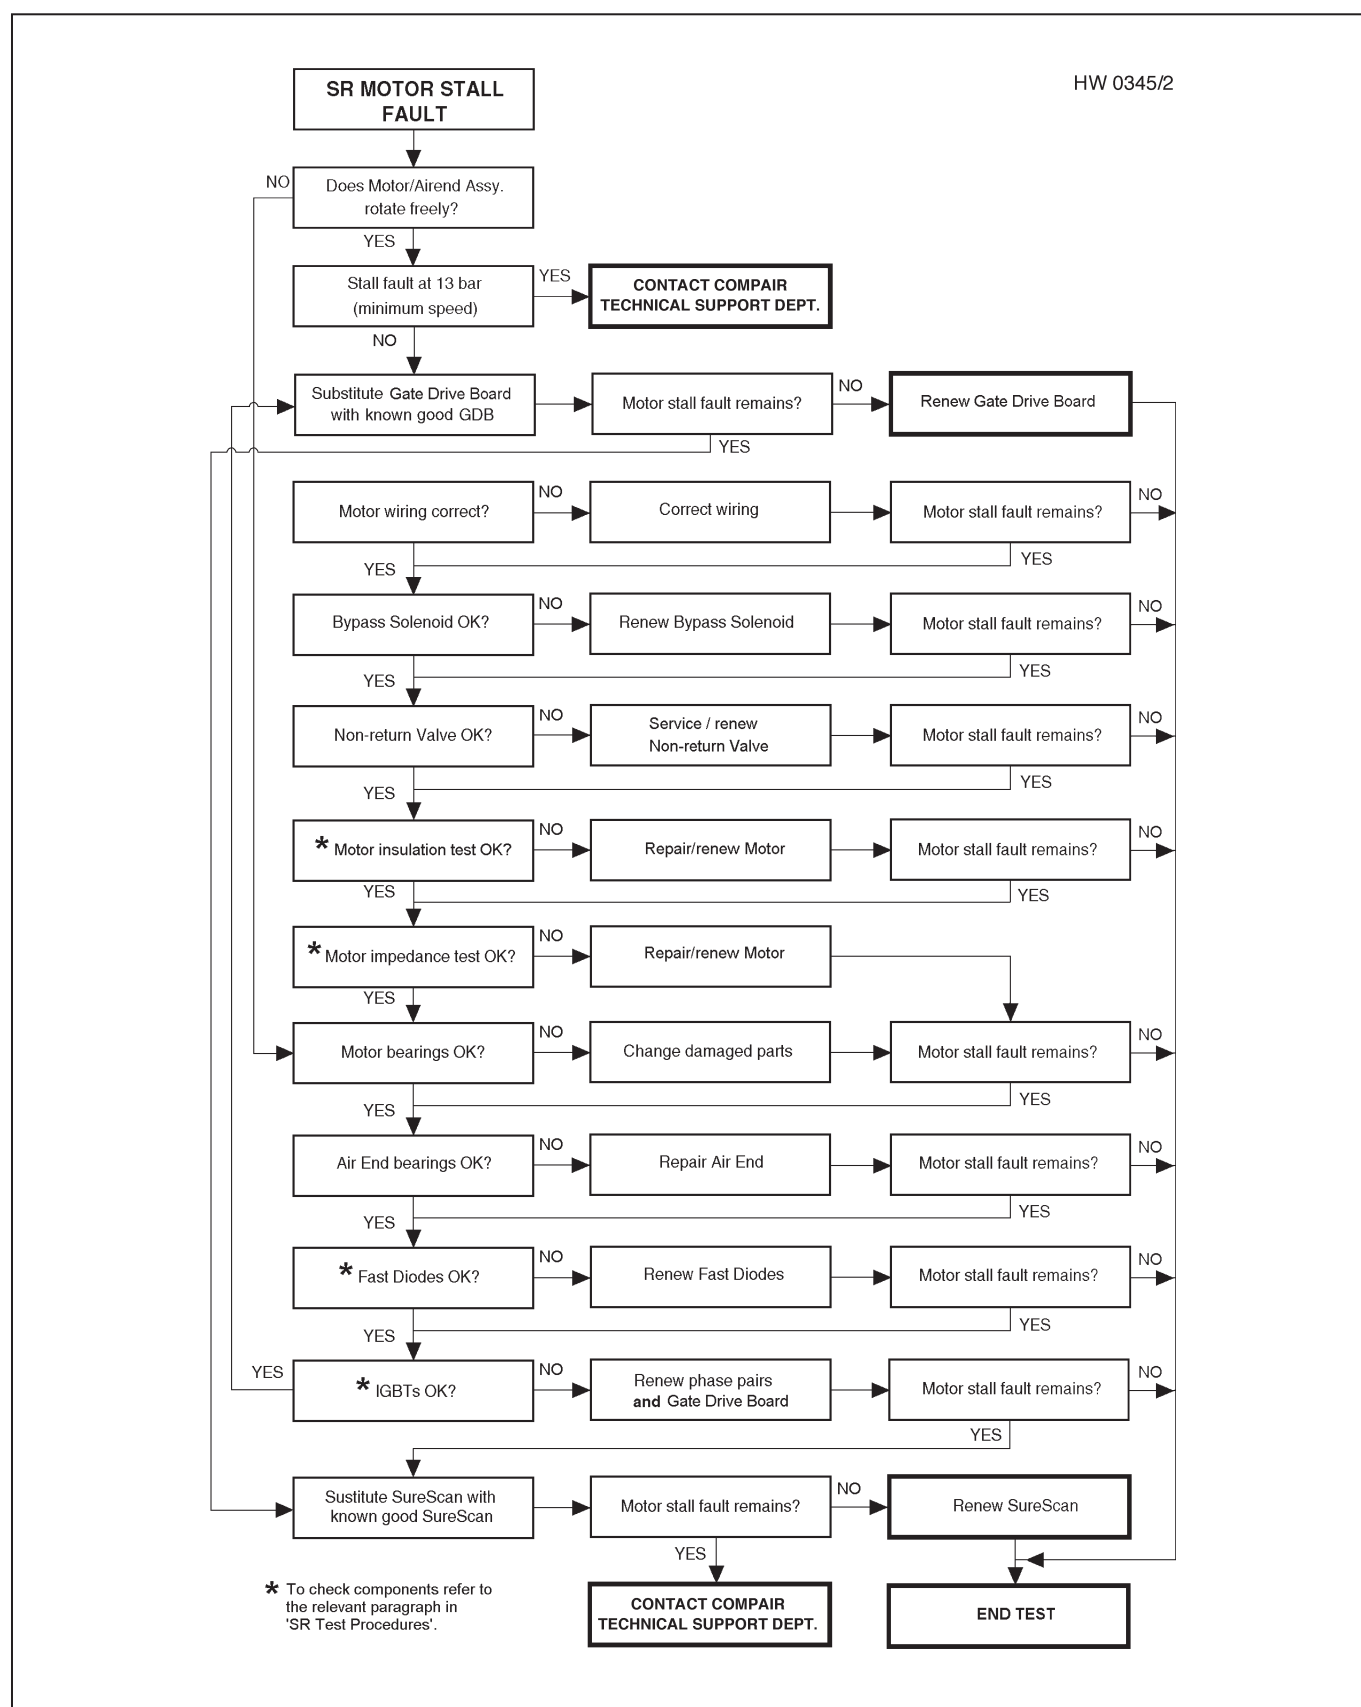

Fig. 4.14 - Motor Stall Fault
4.8.8 SR Motor Stall Fault (fig. 4.14)
- b) Refer to the flow chart in fig. 4.14 for the fault finding procedure.